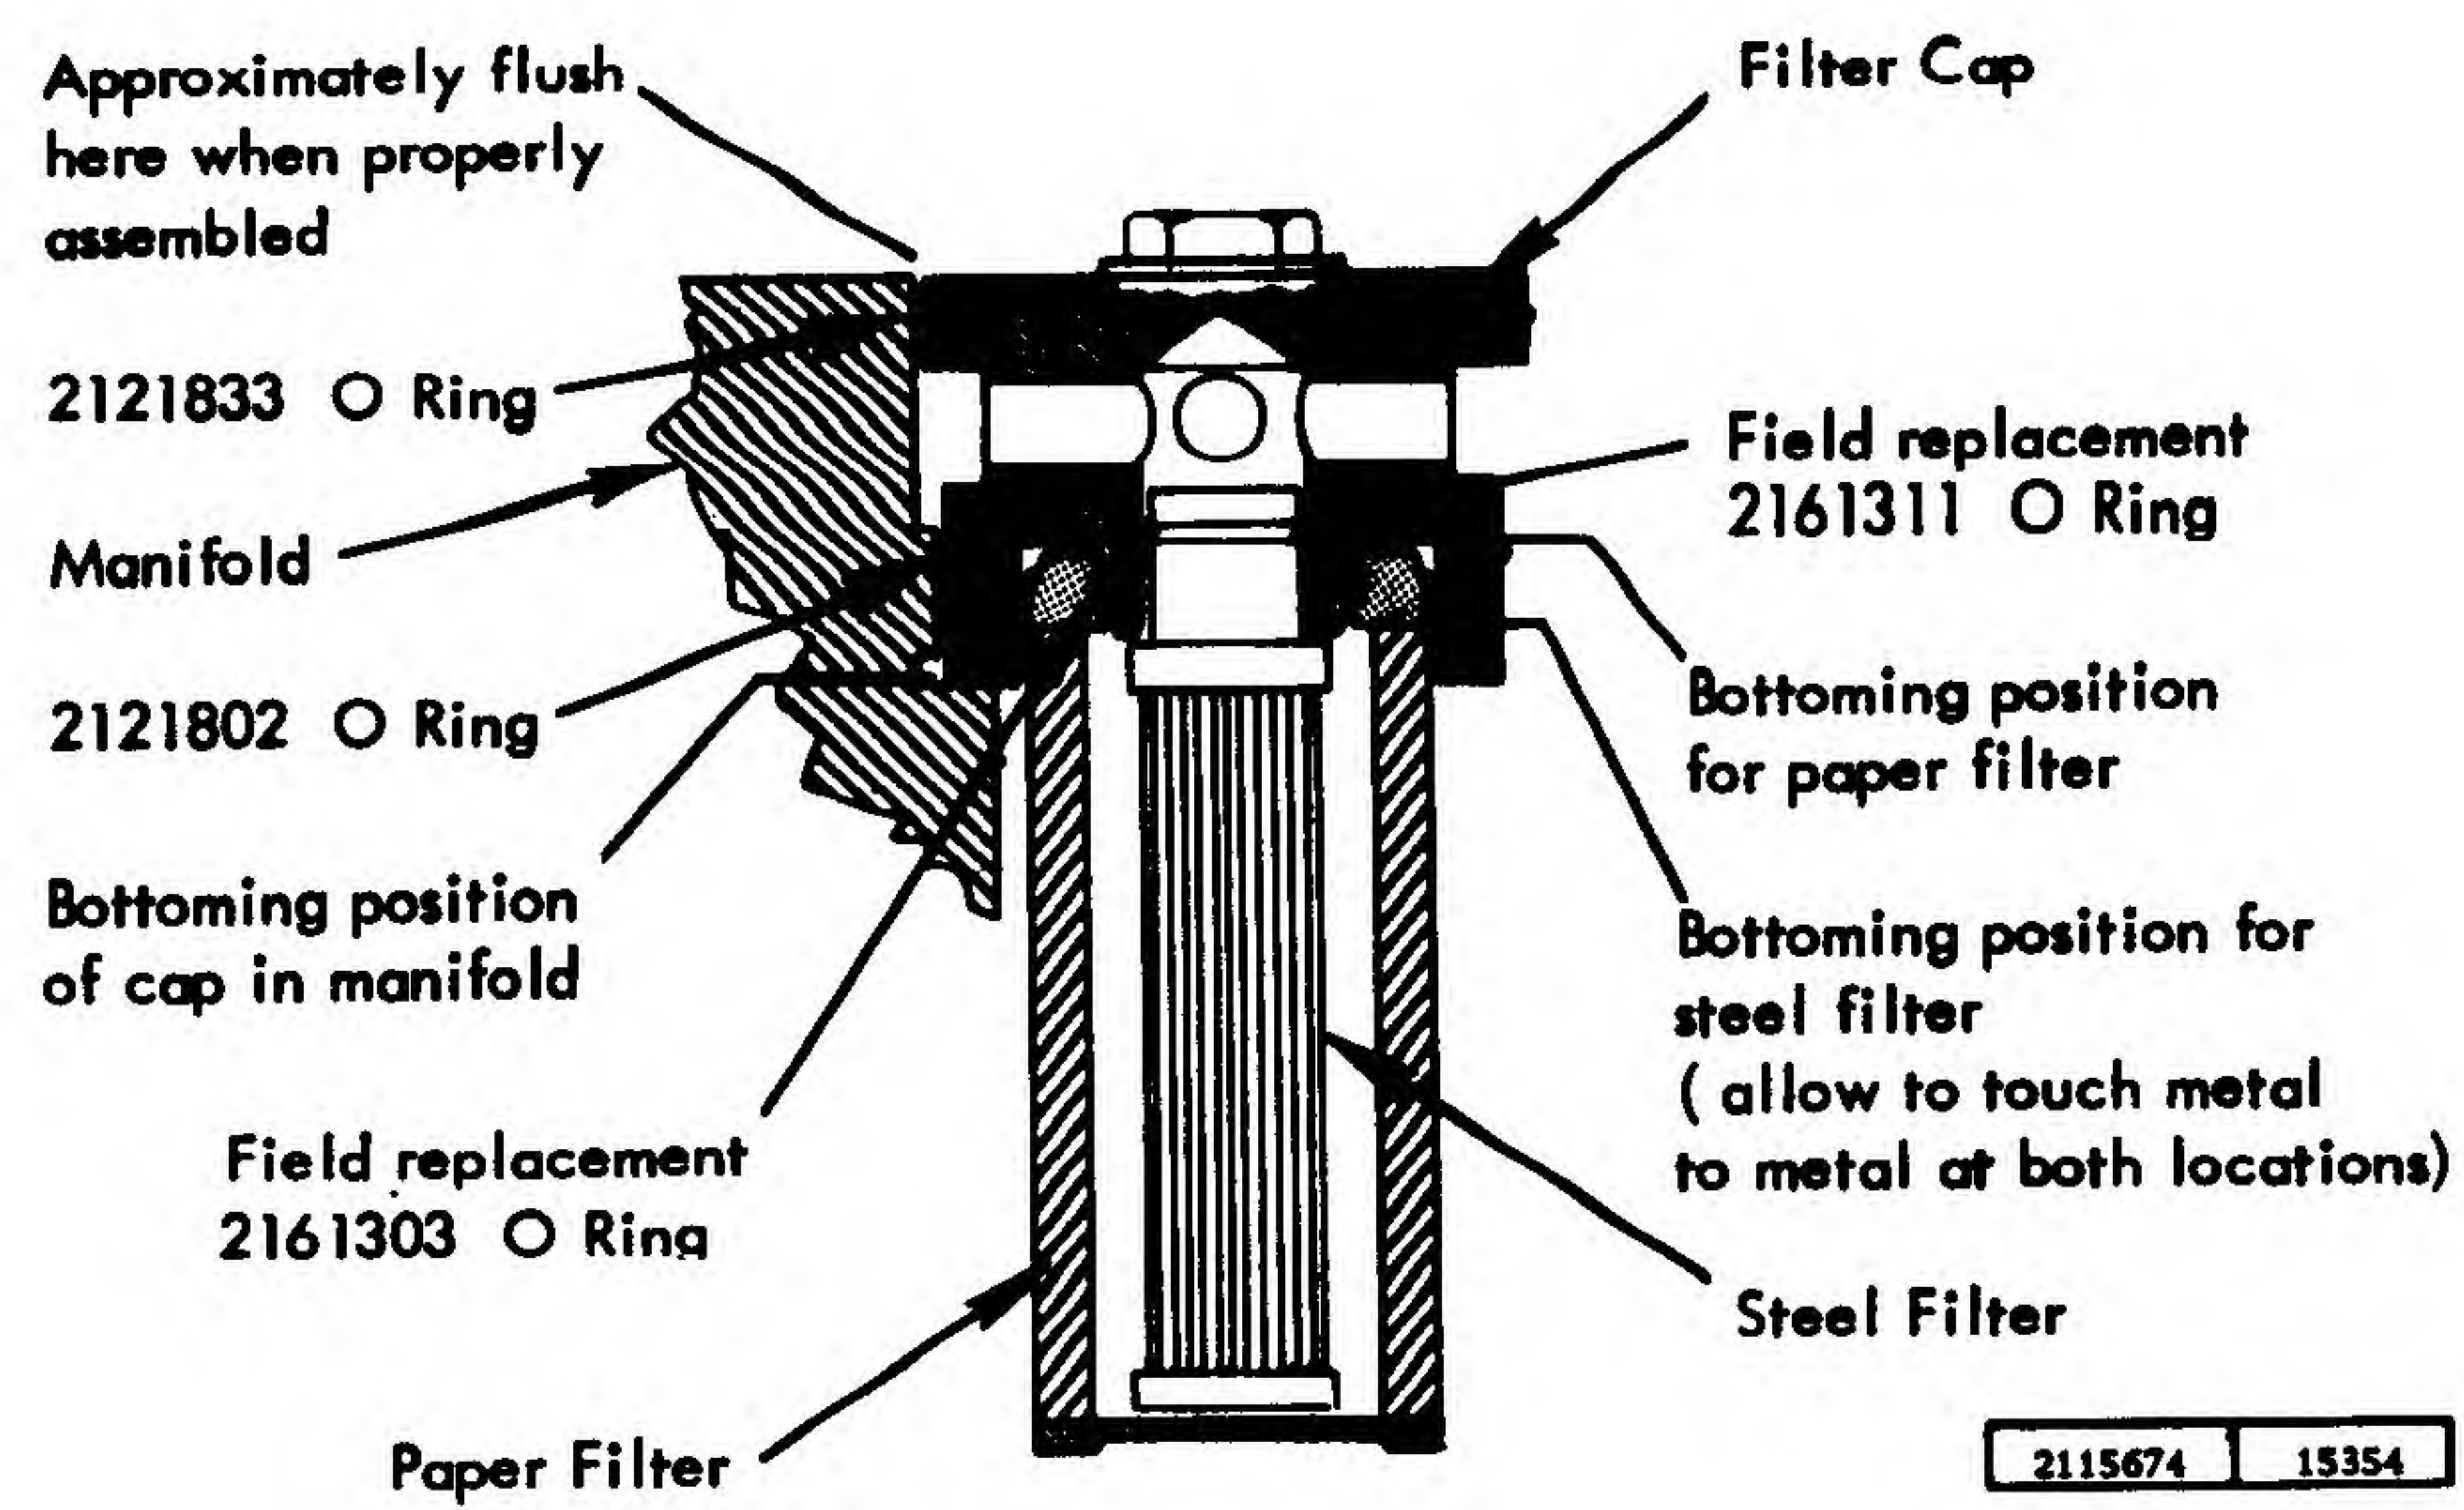

Figure 3-45a Mechanical Filter Assembly
- b. Remove the wrapping from the new steel filter, (P/N 2161309), using care to handle or hold at bottom end cap. Be sure that there is an O-ring on the outer diameter of the neck. Figure 3-45a shows field replacement O-ring.
- c. Assemble the new steel filter to the cap by inserting it into the cap boss. Bottom the filter to the shoulder as shown in Figure 3-45a.
6. Remove the wrapping from the new paper filter, (P/N 2161310), using care to handle or hold at bottom end cap. Be sure that there is an O-ring in the inner diameter of the filter neck. Figure 3-45a shows field replacement O-Ring.
7. Assemble the new paper filter or the used paper filter (See Step 5b) to the new cap by slipping the filter over the assembled steel filter and by fitting over the cap boss. Push the filter to the bottom of the boss as shown in Figure 3-45a.
until it just bottoms. Do not torque beyond this bottom position in which the top edge of the cap is approximately flush with the surface of the manifold. If the cap does not seat properly, remove and check the filters to be sure they are bottomed in the cap boss (Figure 3-45a).